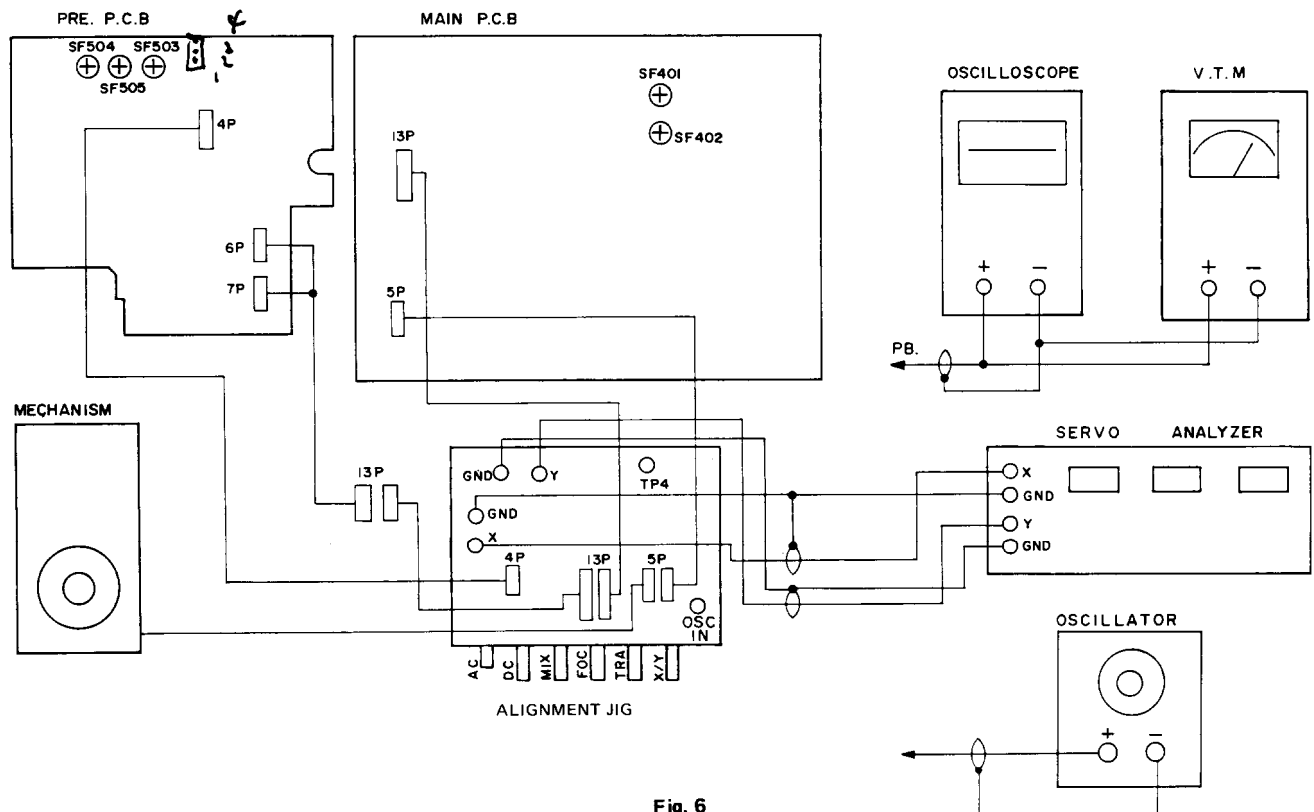

Fig. 6
- 2) Connect the alignment jig as shown fig. 6 and set the selector switch of alignment jig to the focus condition.
- 2) Adjust SF505 so that 3Hz component becomes minimum output. (See fig. 6)
Method 1 (See fig. 6)
Method 2 (See fig. 6)